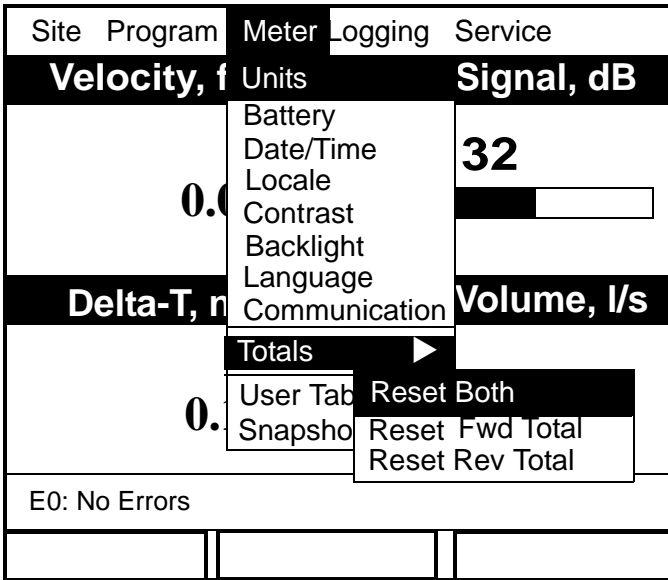

Figure 84: Resetting Totals Menu
1. From the Meter menu, scroll to the Totals entry and press [ENTER]. The window now appears similar to Figure 84 below.